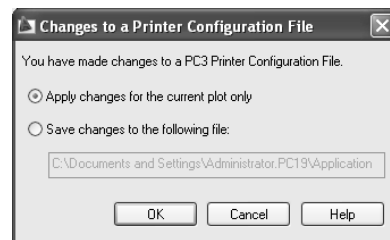

Figure 12.18
5. Click OK. You’ll see the Changes to a Printer Configuration File dialog box, as shown in Figure 12.18.